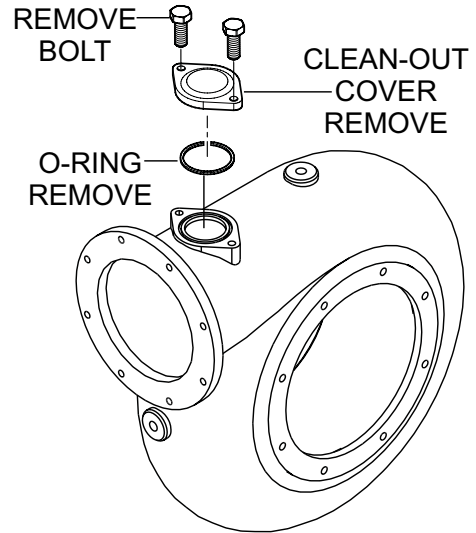

Figure 40. Clean-Out Cover Removal
2. Remove the bolts (2) that secure the clean-out cover (Figure 40) volute casing.